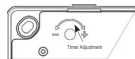

Fig 4
2. To REDUCE the operating time, use a small screwdriver to turn the adjuster (Fig 4) ANTI-CLOCKWISE.
3. To INCREASE the operating time, use a small screwdriver to turn the adjuster (Fig 4) CLOCKWISE.